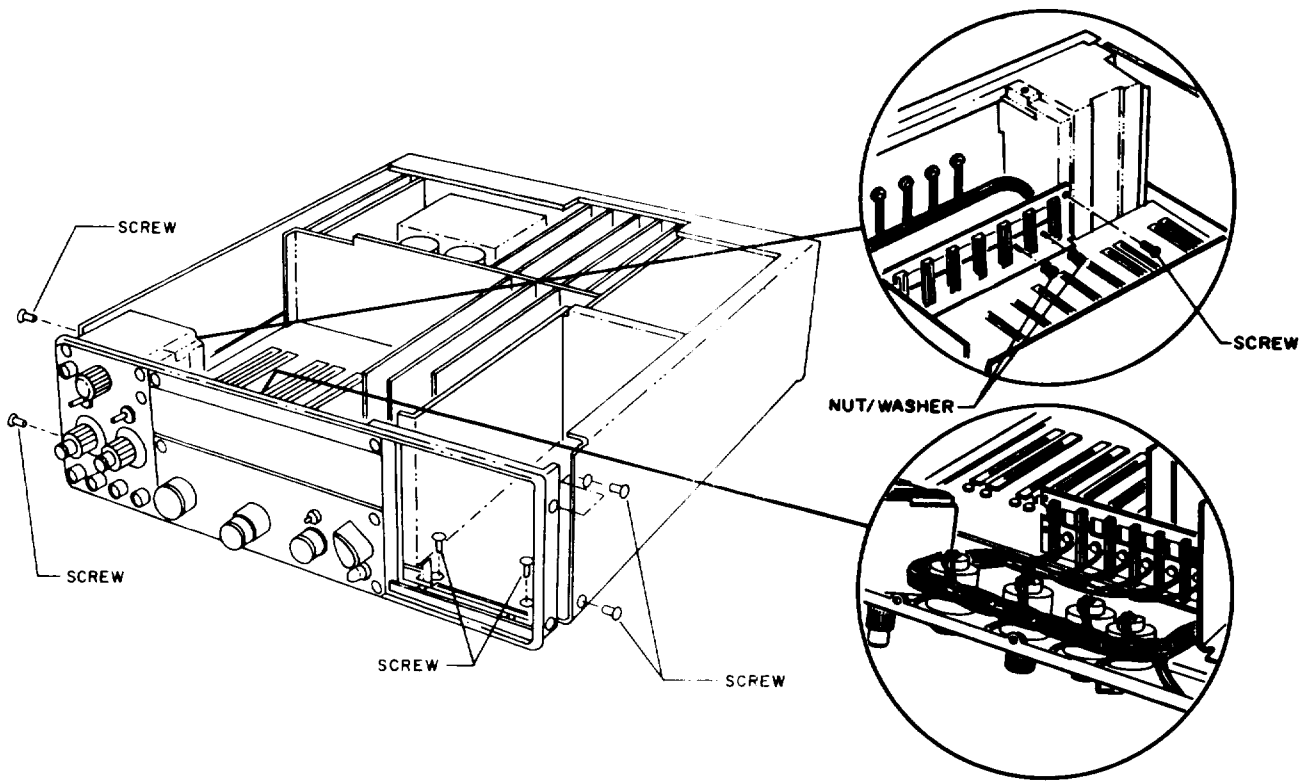

Figure 5-13. Counter, Disassembly of Front Section
1. ACCESS TO FUNCTION SWITCH A1S4, TIME BASE SWITCH A1S3, STD FREQ OUT SWITCH A1S2, AND POWER SWITCH A1S1. - These parts are mounted on the front panel, and become accessible when the front-panel casting is detached from the counter and is supported only by the wire harness. Refer to figure 5-13 and proceed as follows: